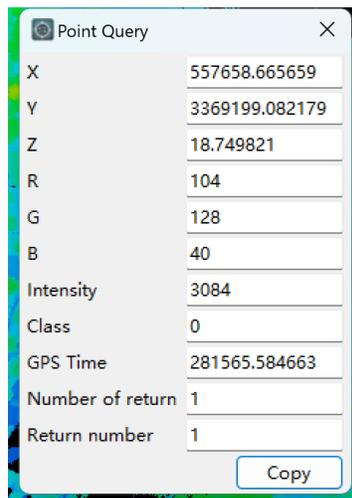

Figure 3-114 Query Single Point details
- (1) Click menu <Tools> → <Query Single Point>.
- (2) Click the point cloud that needs to be queried in the point cloud view, the pop-up dialog box (Figure 3-114) displays the detailed information of the point cloud, the point information can be copied to the clipboard by clicking <Copy>.